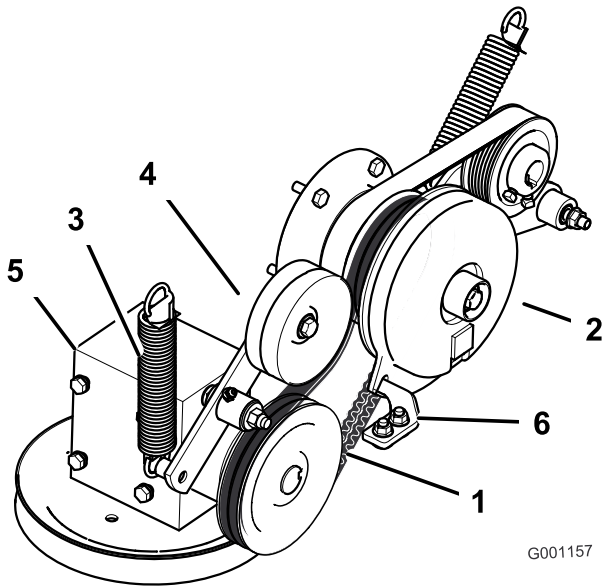

Figure 2
- Remove the spring from the idler arm (Figure 2).
- Remove the clutch stop bracket from the machine. The holes for the clutch stop will be used for the new clutch (Figure 2).
- Remove the PTO drive belt from the clutch (Figure 2).
5. Install the PTO drive belt onto the clutch (Figure 2). Ensure the belt is routed correctly.